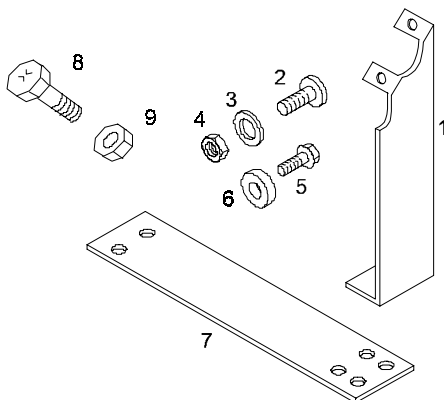

Figure 1: Kit Components
1. Attach the horizontal coupling bar (item 7 in Figure 1) to the brackets (item 1 in Figure 1) using the 1/4 inch machine screws (item 2 in Figure 1), lock washers (item 3 in Figure 1), and hex nuts (item 4 in Figure 1). Do not tighten the screws at this time.
- 16-gauge blade: Use the two #12-24 x 1/2 inch hex-head, self-tapping screws (item 5 in Figure 1), and the modified washers (item 6 in Figure 1).
- Double-piece blade: Use the two #12-24 x 1/2 inch hex-head, self-tapping screws (item 5 in Figure 1).
- Airfoil blade: Use the two #10-32 x 1-1/4 inch hex-head screws (item 8 in Figure 1) and two #10-32 hex nuts (item 9 in Figure 1).